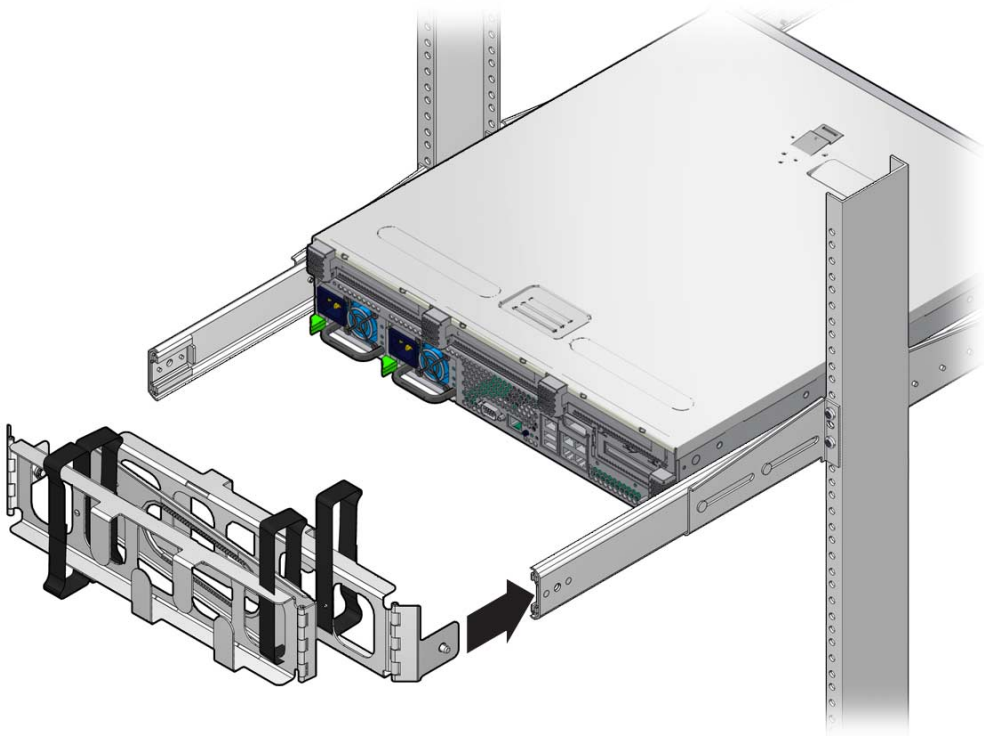

FIGURE 3-22 Attaching Cable Management Arm to Right Side
10. Attach Cable Management Arm (CMA) to rails (note labels on rails and CMA) to right (FIGURE 3-22) side.